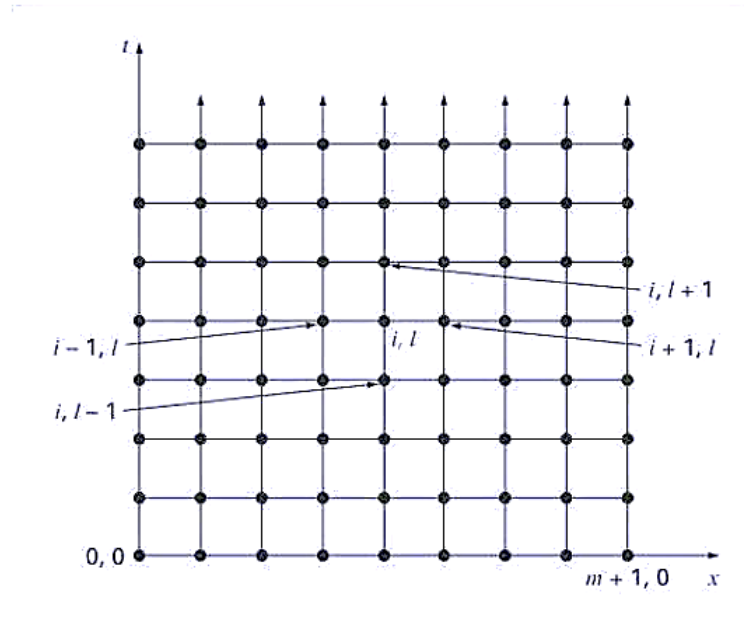

Figure 2 A grid used for the finite-difference solution of parabolic PDEs in two independent variables such as the heat-conduction equation.
Equation (1) can be solved using the alternating-direction implicit, or ADI, scheme. ADI provides a means for solving parabolic equations in two spatial dimensions using tridiagonal matrices. To do this, each time increment is executed in two steps (Figure 2). For the first step, Eq. (1) is approximated by